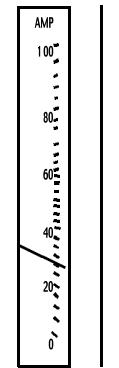

Fig. 5
6. If pointer indicates below 40 Amps (Fig 5)